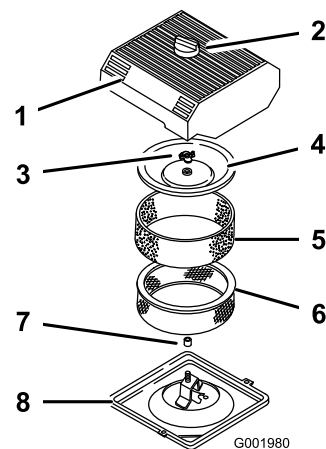

Figure 25
3. Clean around the air cleaner to prevent dirt from getting into the engine and causing damage (Figure 25).
4. Loosen the knob on the air cleaner cover and remove the cover (Figure 25).
- Carefully slide the foam element off the paper element (Figure 25).
- Unscrew the cover nut and remove the cover and paper element (Figure 25).
- Carefully slide the foam element onto the paper air cleaner element (Figure 25).
- Install the cover nut finger-tight against the cover (Figure 25).
- Install the air cleaner cover and knob (Figure 25).